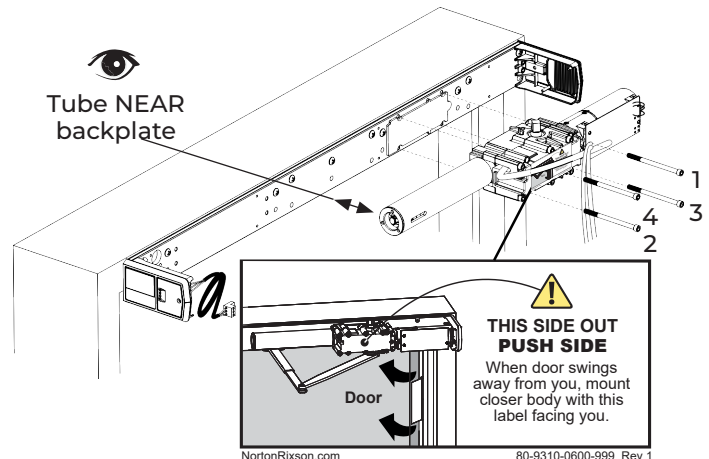

Fig. 9
1. Using the four (4) screws provided, install the operator body to the backplate. (Fig. 9)
- Screws must be tightened in a cross pattern until all four (4) screws are tight. (Fig. 9)
(Fig. 9)